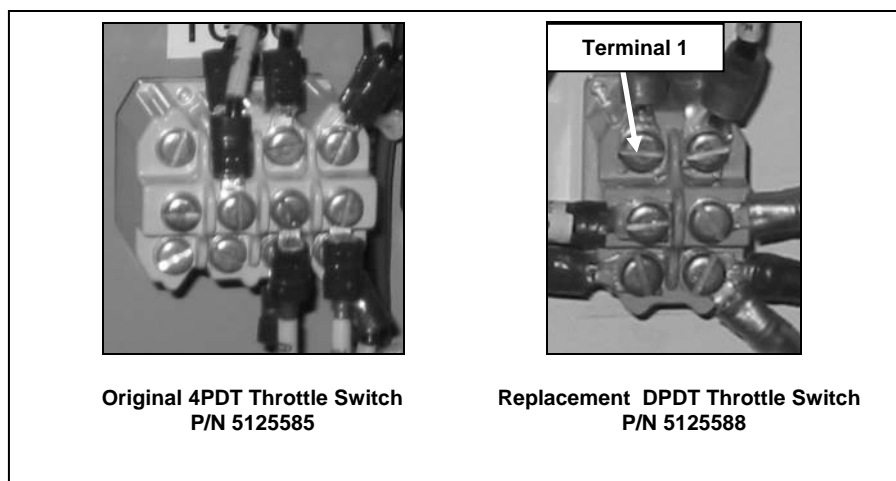

Figure 2
The 4PDT Throttle Toggle Switch should be replaced with a DPDT Momentary Contact, Center-Off Toggle Switch, P/N 5125588. See Figure 2 for wiring instructions. Please note that after the new throttle switch is installed, the engine will be able to be started with the throttle in the high-speed position.
4. Install the replacement switch in the mounting hole with Terminal 1 on the top left as shown in Figure 2.